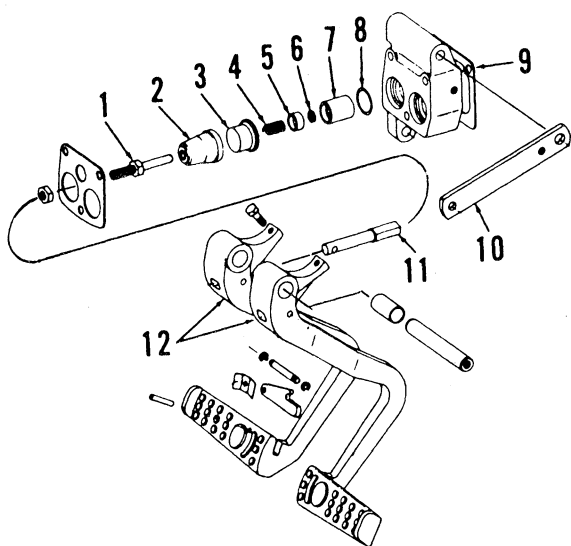
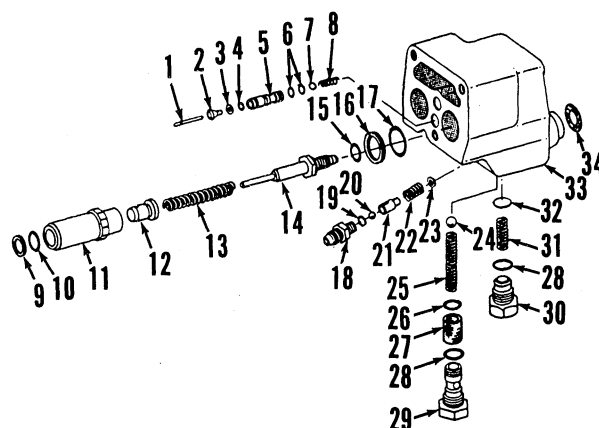
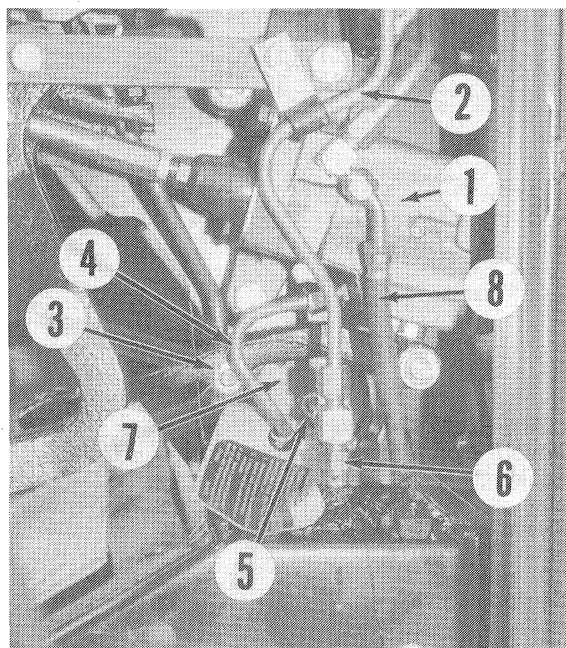

Fig. 200A—Exploded view of brake valve cover, pedals and associated parts. Right and left brake parts are identical.
Fig. 201—Exploded view of brake valve with cover removed. Operating parts shown are for right brake.
Fig. 202—The brake accumulator is located in the steering console directly below the brake control valve.
The only adjustment provided is at operating rod and extension (1 and 11—Fig. 200A). This adjustment is used to equalize brake pedals. To adjust, first loosen both bleed screws and depress pedals to relieve hydraulic pressure. Install a 0-5000 psi (0-35000 kPa) pressure gage in brake pressure line. Disconnect return line from brake valve and connect a hose to valve fitting so oil can be directed into a container. Disconnect right operating rod extension, then adjust left extension to obtain left pedal height of 5.75-5.87 inches (146-149 mm) from footrest to upper curved surface of pedal. Reconnect right operating rod extension, lock both pedals together and bleed brake system as outlined in paragraph 181. With engine running, apply force to brake pedals to obtain 1000 psi (7000 kPa) reading on pressure gage. A continuous flow of oil from brake valve return indicates adjustment is needed. Adjust right brake rod extension until return flow is reduced to a minimum. If adjustment does not reduce oil flow, disassemble and inspect brake valve as outlined in paragraph 182.
182. R&R AND OVERHAUL. To remove the brake valve (1—Fig. 202), first loosen bleed screws and depress brake pedals to relieve system pressure. Remove shield from right side, disconnect the two hydraulic lines and remove the elbows from front of brake valve. Remove cowl. Disconnect hydraulic lines from brake valve. Remove special pin which secures right extension rod (11—Fig. 200A) to pedals, then remove extension rod. Remove strap (10) and right brake pedal. Remove special pin and left brake extension rod. Remove valve mounting cap screws and withdraw valve assembly.
Manual brake pistons (11—Fig. 201) and plungers (12) and equalizing valve assembly (1 through 8) can
be lifted out after valve cover is removed. Use a deep socket to remove inlet valve nipples (14). Pull operating rod guides (7—Fig. 200A) from cover and remove "O" rings (8). Remove fitting (18—Fig. 201) and plugs (29 and 30) to complete disassembly of valve components.
Check for free movement of operating valve guides (7—Fig. 200A) and equalizing valve pins (1—Fig. 201). Renew all "O" rings whenever unit is disassembled.
183. R&R AND OVERHAUL The brake accumulator is located in the steering console directly below the brake control valve. To remove brake accumulator (7—Fig. 202), first loosen brake bleed screws and depress brake pedals to bleed pressure from brake system. Remove dash cover and cowl cover. Remove differential lock line (2) and fitting (6), brake pressure line (4) and return line (8). Remove differential lock pedal (3). Remove accumulator pressure line (5) and accumulator retainer clip, then withdraw accumulator.